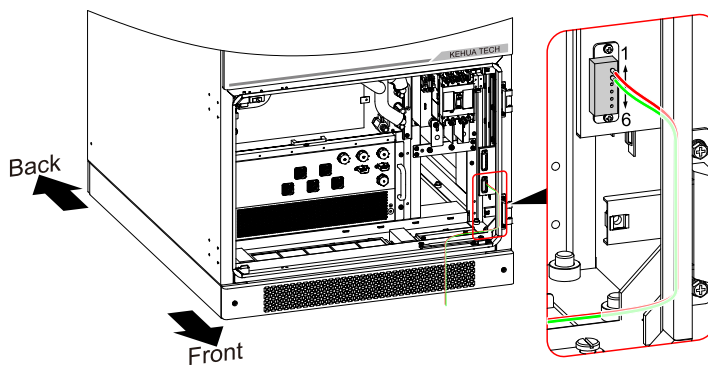

Figure4-25 Connection diagram of 24V output cables
Step 3 Connect the crimped 24V output cables to corresponding terminals of the energy storage system, as shown in Figure4-25.